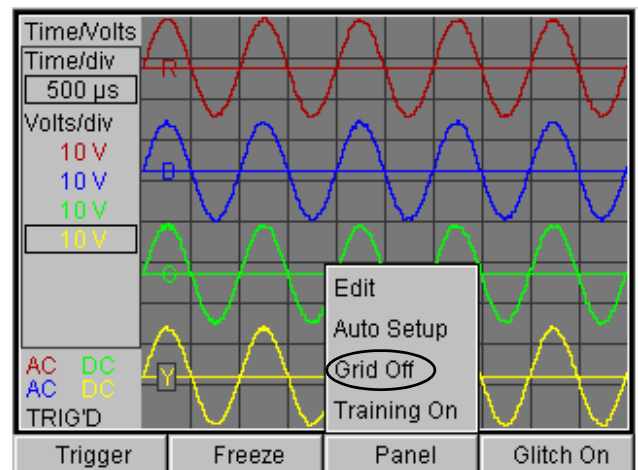

Figure 7.42: Lab Scope Screen, DMM off - Panel Function Key, Grid Off Option
- 2 Press the **Panel** function key (see Figure 7.42).